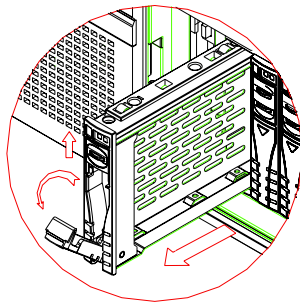

Figure 2.10: Pushing up the latch & removing the mobile tray
3. Press down the handle of the mobile tray and pull it out as far as it will go. Then completely take out the tray. (See Figure 2.10)